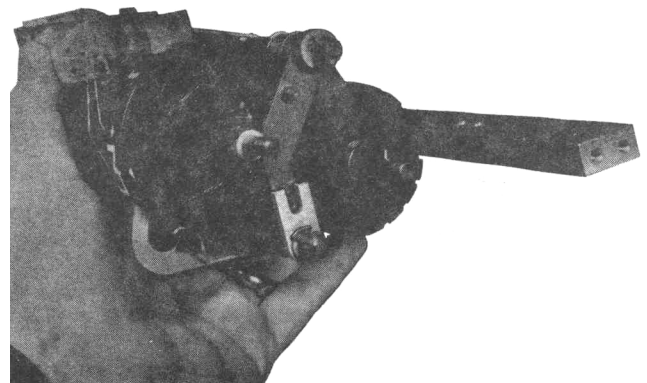

Figure 20. Preparation For Side Plate Installation
- Engage pin on reset lever group with slot in reset afro. See Figure 20.
- Hold meter register assembly as shown in Figure 20 and place a rubber band around the assembly to hold it together. Be sure the pin in the reset lever group remains engaged in the slot in the reset afro.